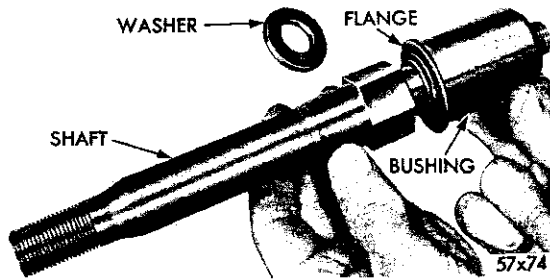

Fig. 11—Removing the Shaft Bushing
(2) Remove the cotter pin, nut and washer from the end of the shaft, and remove the bushing from the shaft (Fig. 11).
(3) Using Tool C-3560 for Models TC-1, TC-2, and TC-3 or Tool C-3561 for TY-1 unscrew the ball joint from the lower control arm.